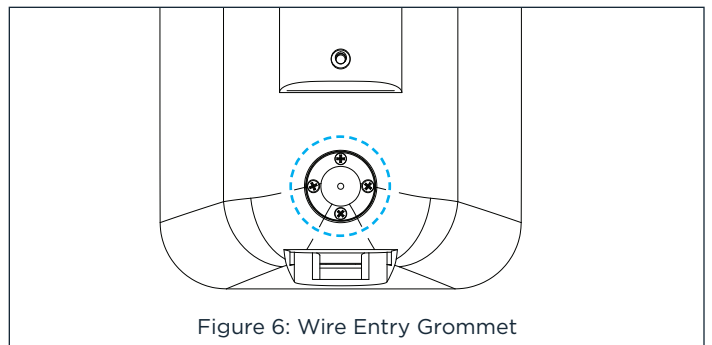

Figure 6: Wire Entry Grommet
5. Feed the speaker wires from the brackets into the wire entry grommets on the backs of the speakers, through the wire tunnels and out the openings on the speakers’ front panels (see Figure 6 and 7).